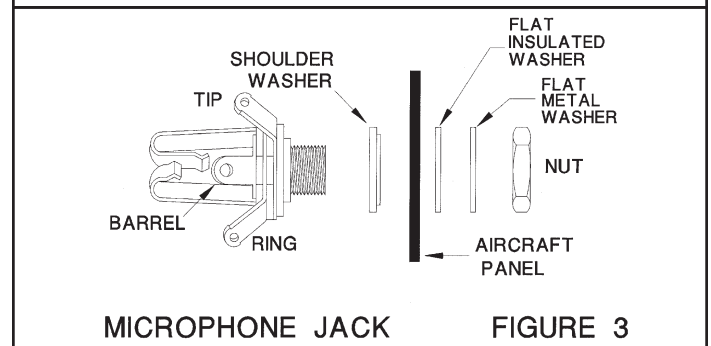

FIGURE 3
3. Drill 1/2" diameter holes for mic jacks and install with insulating washers supplied. (See Figure 3).